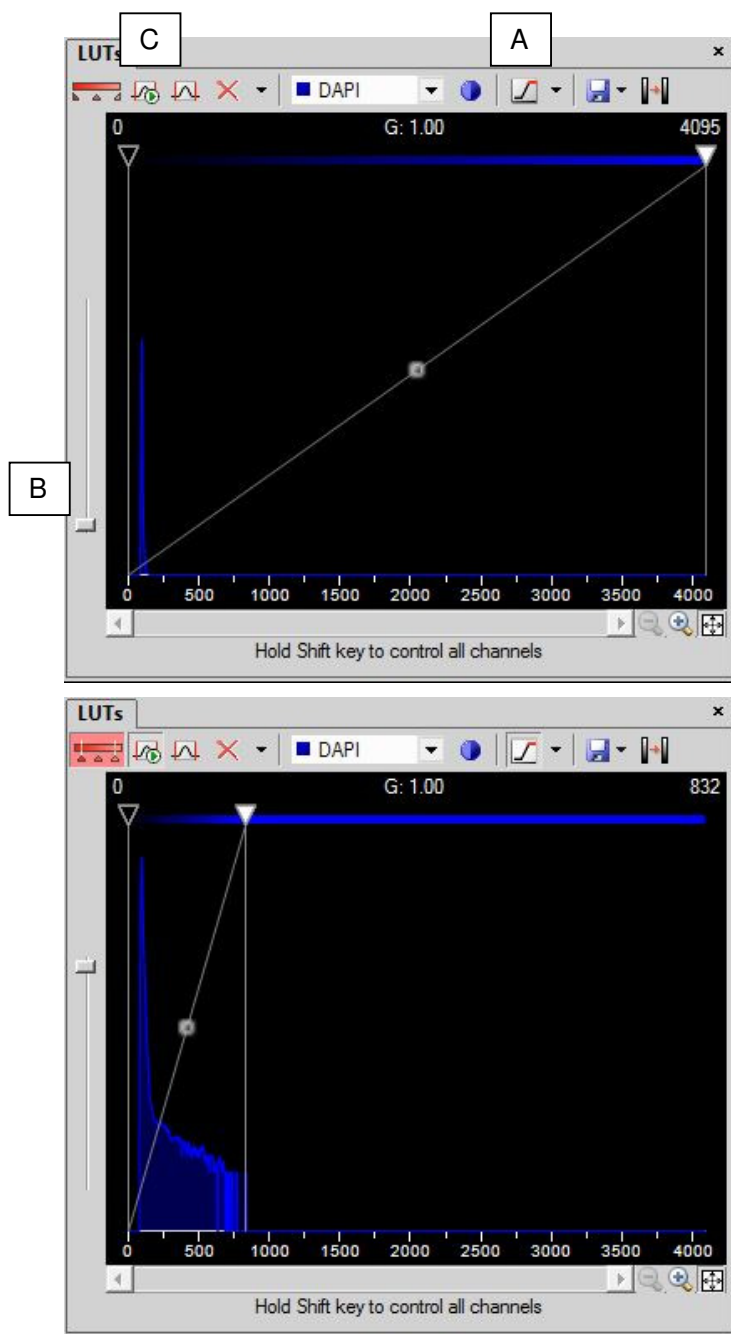

Figure 24. Look Up Tables (LUTs) for adjusting contrast. Saturation toggle switch (A), keep auto scale on switch (B), and make Y axis logarithmic (C).
- 5.8.5 Look up tables (LUTS, Figure 24)